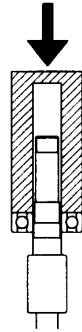

Fig. 5
- (1) Press bearing ⑩ onto shaft ⑫ until seated against the shoulder. (Fig.5)